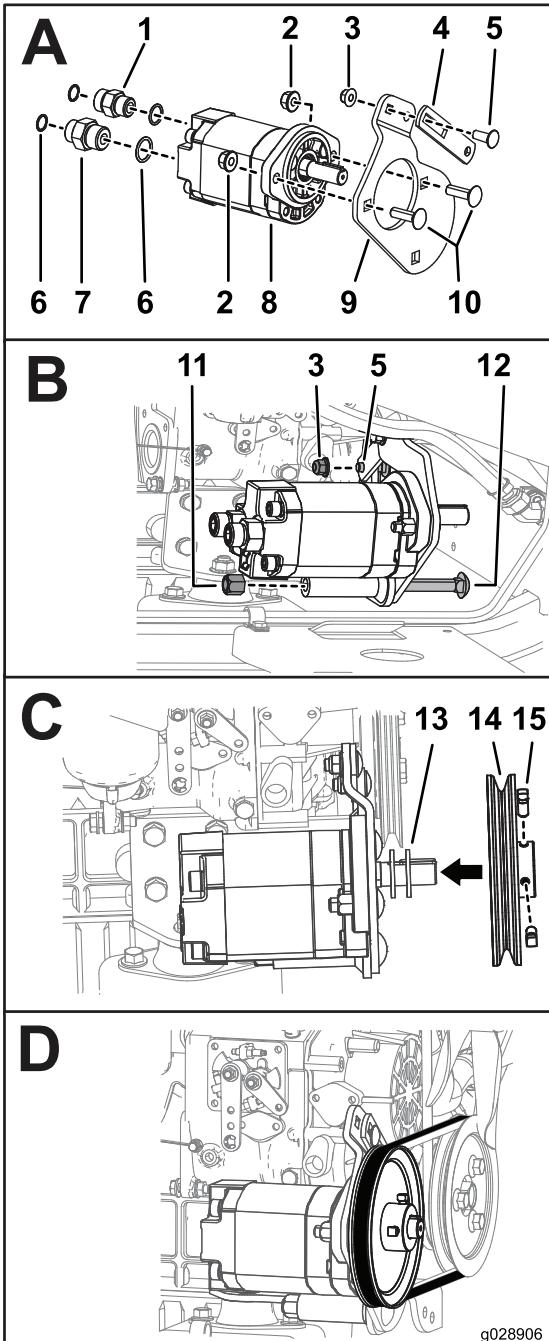

Figure 7
3. Install the adapter fitting (5/8 x 3/4 inch male) and O-rings onto the right port on the gear pump (Box A of Figure 7).
4. Install the adapter fitting (5/8 x 5/8 inch male) and O-rings onto the left port of the gear pump (Box A of Figure 7).
5. Loosely install the tensioner arm onto the gear-pump plate using 1 bolt (3/8 inch) and 1 flange nut (3/8 inch) (Box A of Figure 7).
6. Install the gear-pump plate onto the gear pump assembly using 2 carriage bolts (7/16 inch) and 2 locknuts (7/16 inch) as shown in Box A of Figure 7.
8. Loosely Secure the gear-pump assembly onto the bracket using 1 carriage bolt (1/2 inch), 1 locknut (1/2 inch), 1 bolt (3/8 inch) and 1 flange nut (3/8 inch) as shown in Box B of Figure 7.
9. Place 2 washers on the gear-pump assembly, install the pulley, and secure the pulley with 2 set screws (5/16 inch) as shown in Box C of Figure 7.
10. Install the belt onto the 2 pulleys as shown in Box D of Figure 7.